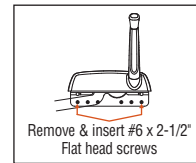

fig. 15
- To fasten the sill use two #6 x 2-1/2" Phillips flat head screws. Remove two screws one from each side of the operator bracket. Place a small amount of silicone caulk in the screw hole and insert through-holes into the rough opening. (**fig. 15**)